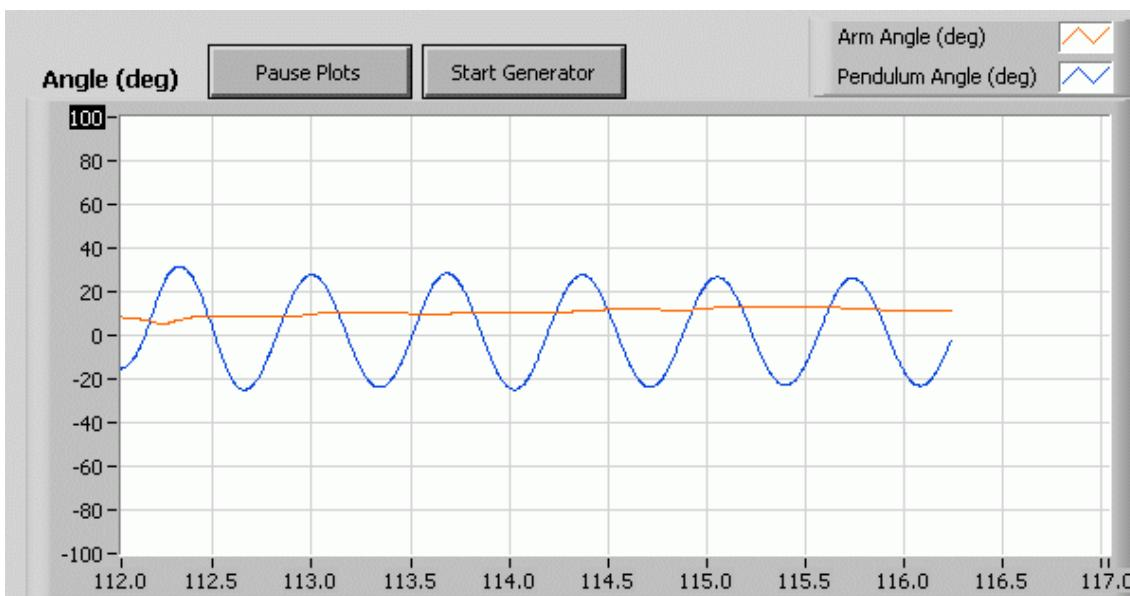

Figure 7.11: Scope needs to be scaled
1. As illustrated in Figure 7.11, to decrease the positive range of the scope down to 40, double-click on '100' in the y-axis, type in '40', and press ENTER.